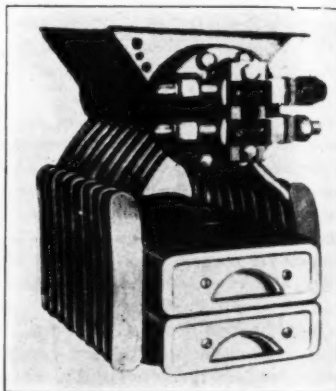

FIG. 3. FREEZING UNIT
C. Use as a heat interchanger in water coolers. (Fig. 3). The drain water flows between the two tubes cools off the incoming fresh water flowing through the inner tube, before it reaches the evaporator.
The compression unit is connected to the freezing unit shown in Fig. 3 by two copper tubes. The "liquid line" is of $\frac{1}{4}$ in. tubing and is used to transfer liquid refrigerant from the storage tank through purge valve No. 1 to the freezer through purge valve No. 2 and float valve No. 3. The "suction line" is made of $\frac{3}{8}$ in. tubing and is used to convey refrigerant gas from the freezer through purge valve No. 4 to the compressor through purge valve No. 5.